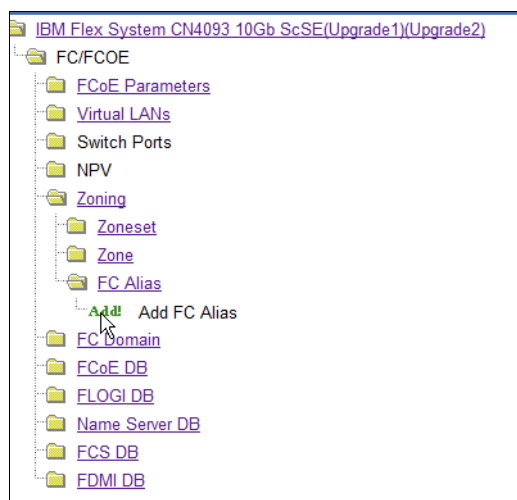

Figure 8-7 Create new Alias
7. Click **Add** to create the new alias as shown in Figure 8-7.